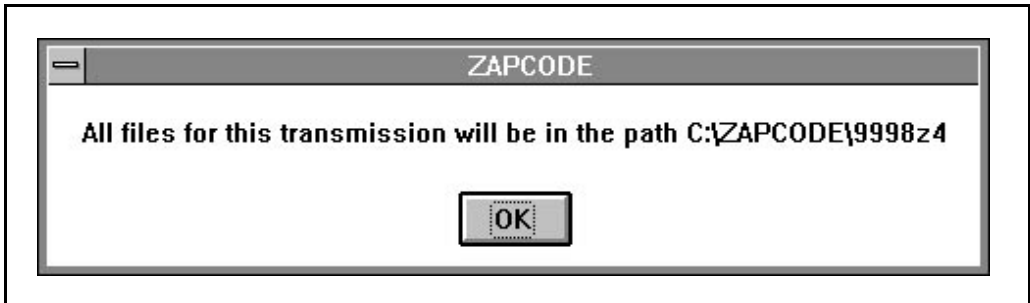

Figure 8-3. Example of a Path Message
4. Click on the **Translate** button. ZapCode II will save the translated file to the ZapCode directory on your hard drive. A message will be displayed showing the path to this directory. A “Z” suffix is appended to the file name, followed by a number representing the number of times the file has been translated. Figure 8-3 shows an example of this message (the file has been translated four times).